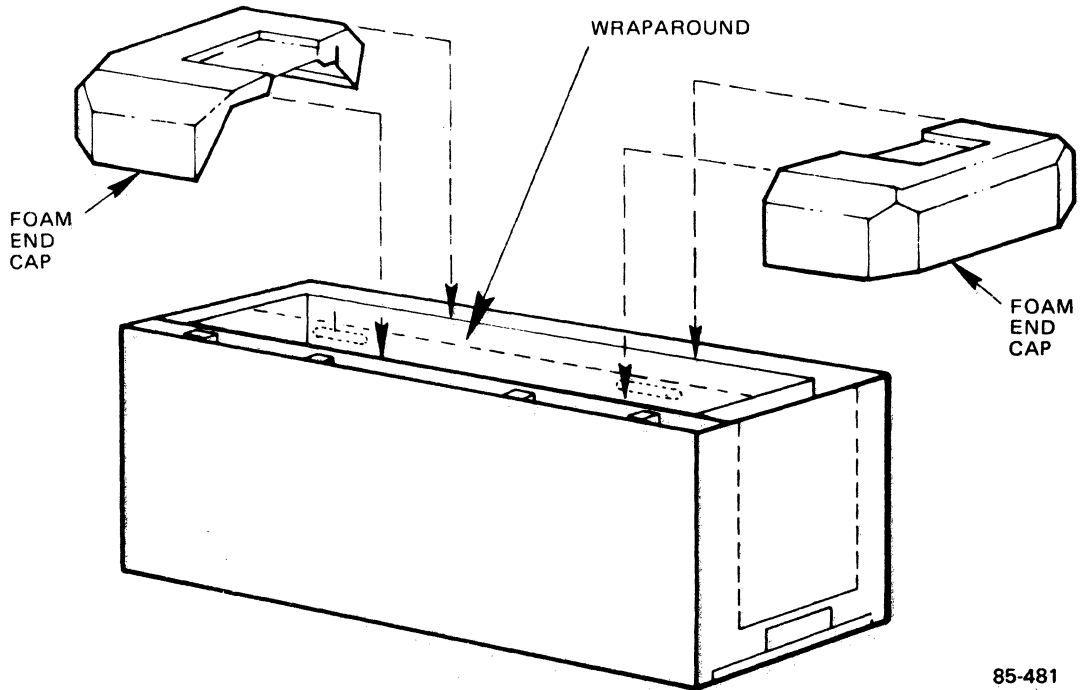

Figure 2-3. Removing the Foam End Caps
6. Remove the two foam end caps by pulling them straight up (see Figure 2-3).